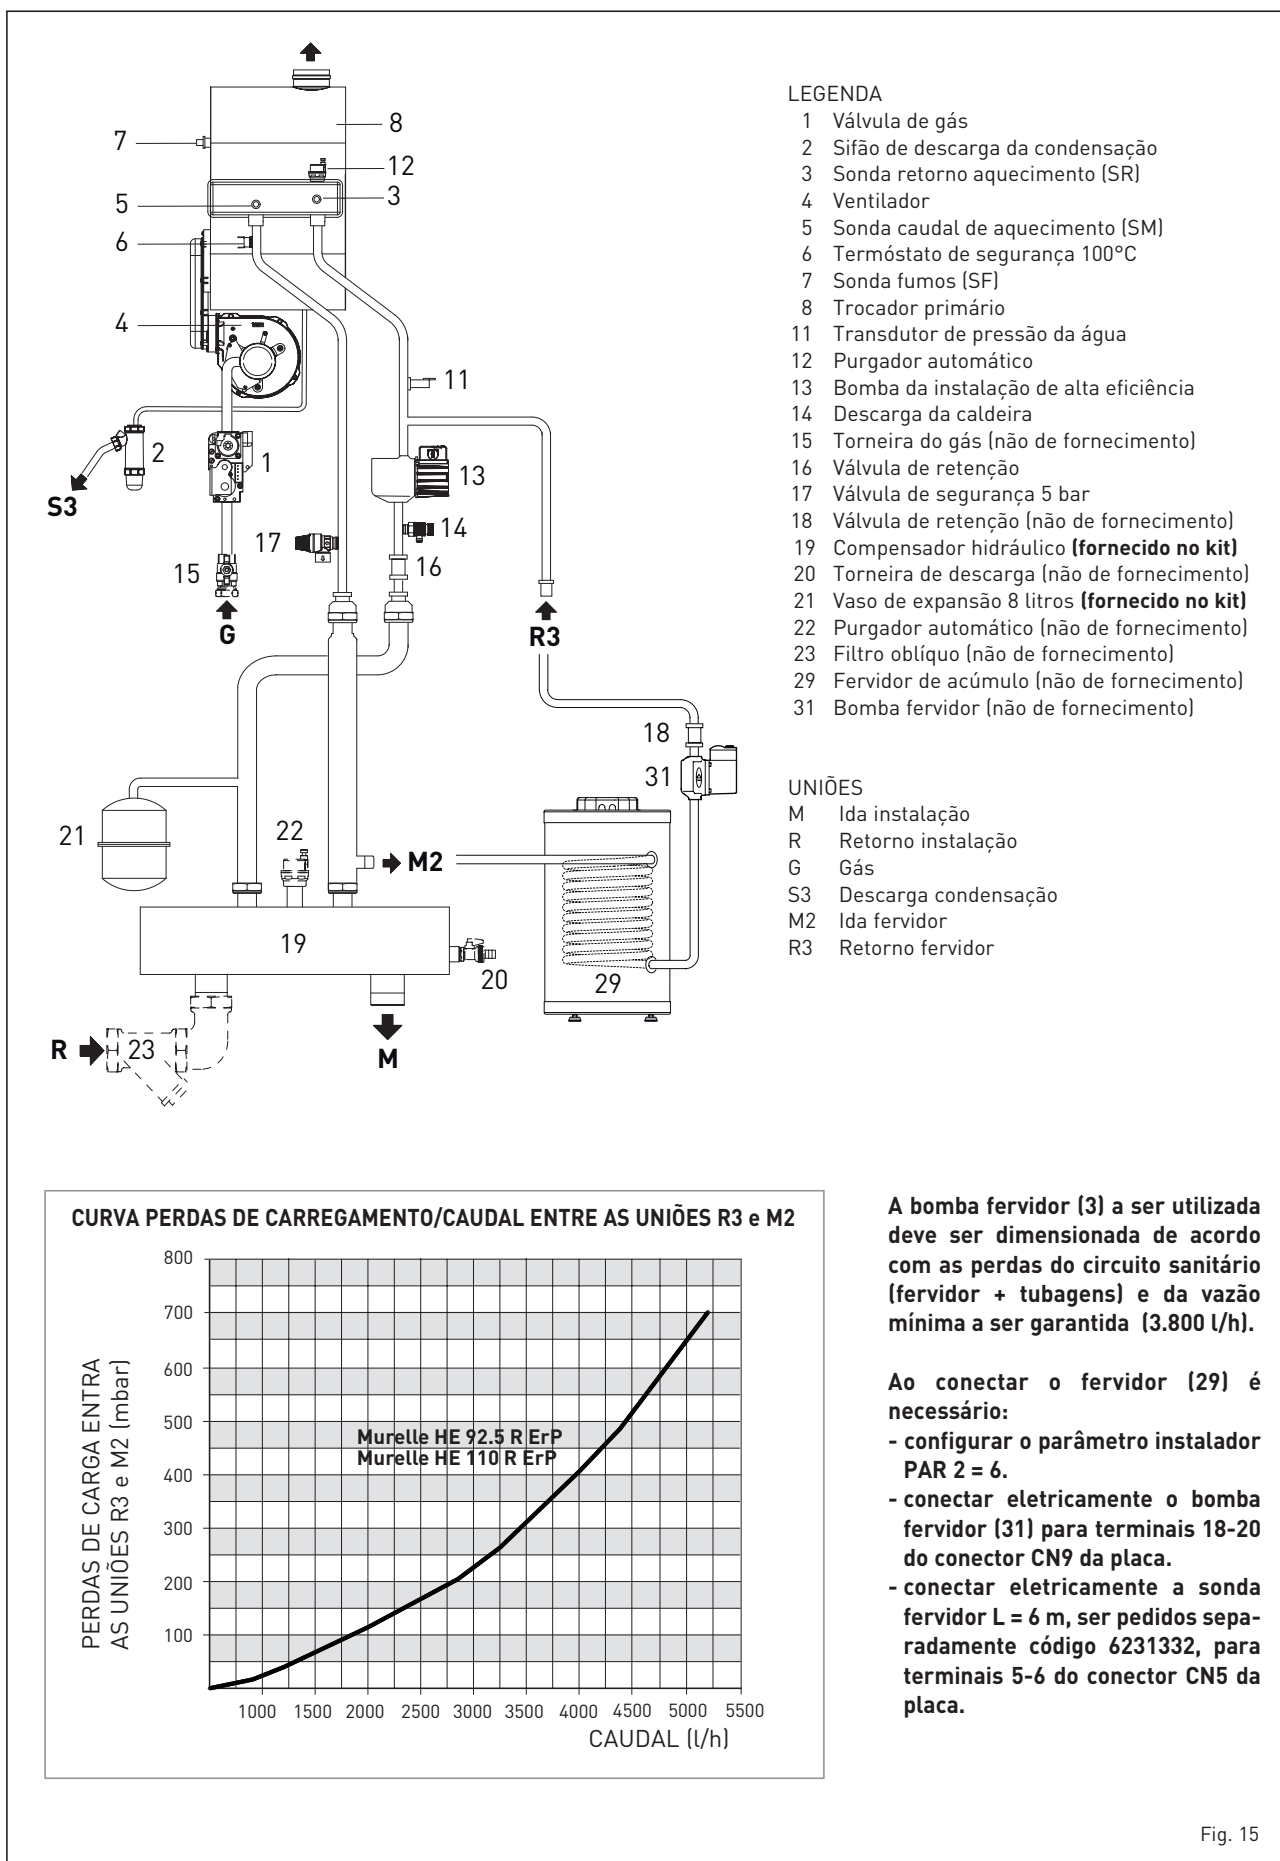

Fig. 15
3.9 “MURELLE HE 110 R ErP” COM KIT COMPENSADOR CÓD 8101581 E FERVIDOR DE ACÚMULO (fig. 15)